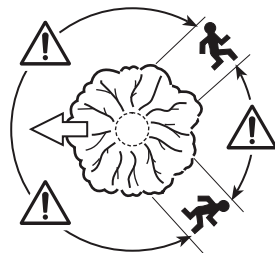

Fig. 28
- > An escape path should be planned and cleared as necessary before cuts are started. The escape path should extend back and diagonally to the rear of the expected line of fall (Fig. 28).